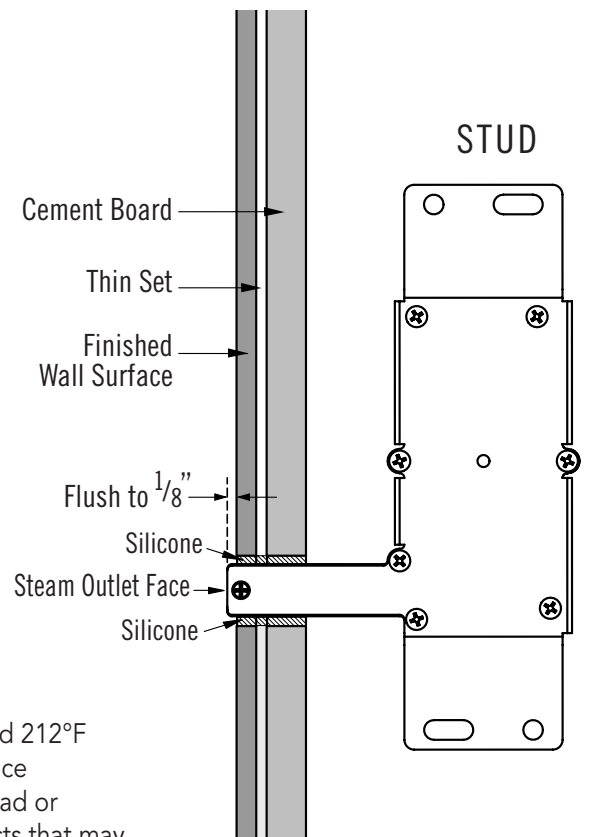

Figure 4
STEP 8. After the finished wall surface has been installed use high temperature caulking around the steam outlet as required to make a waterproof seal. (see Fig. 4)